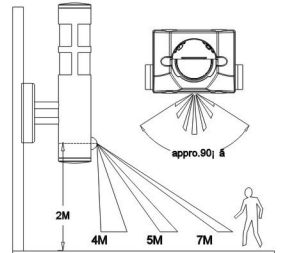

Fig.1A: Sensorområde for Sensor AL57B
- Ideelt skal PIR SENSOREN monteres ca. 2 meter over jorden ud for det område sensoren skal kunne seerne. (Se Fig.1A).
(siehe Abb. 1A).
■ Ideally the PIR SENSOR should be mounted about 2 meters above the area to be scanned (Refer to Fig.1A).